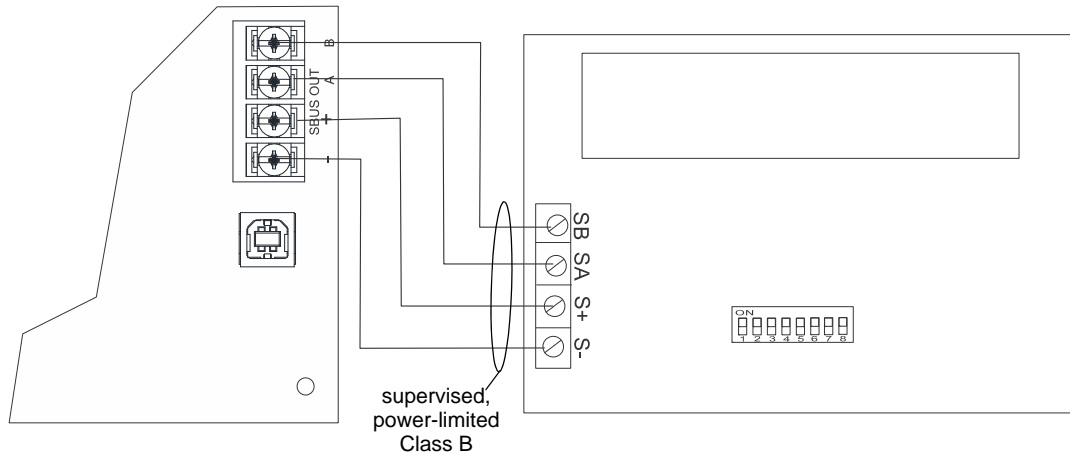

Figure 4.26 RA-2000 Connection to the Panel
3. Wire the annunciator board to the main control panel as shown in Figure 4.26.
- Run wires to the control panel. Refer to Figure 4.26.